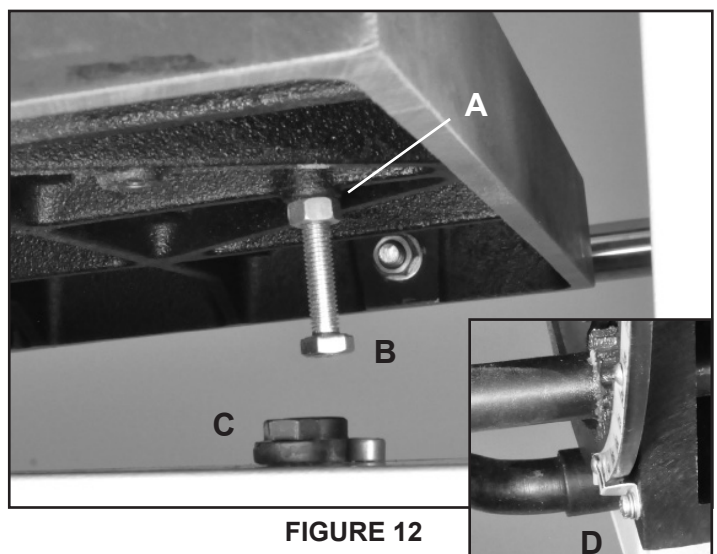

FIGURE 12
Thread the Hex Bolt (#8B) and Nut (#7B) to the bottom of the table in the pre-bored and tapped hole. See Fig. 12, page 13. Setting the table to 90° to the blade will be done later on pages 13 & 14.
1. First loosen the bolt's Locking Nut (#7B) Fig. 12, A.
3. Adjust the bolt (Fig. 12, B), up or down, until it is in contact with the pivoting Table Angle Stop Block (#69A) Fig. 12, C. Retighten the locking nut making sure that the table angle setting is maintained.
4. The angle indicator on the trunnion, under the table, can be adjusted by loosening the Phillips head screw and moving the pointer into position. Fig. 12 D.